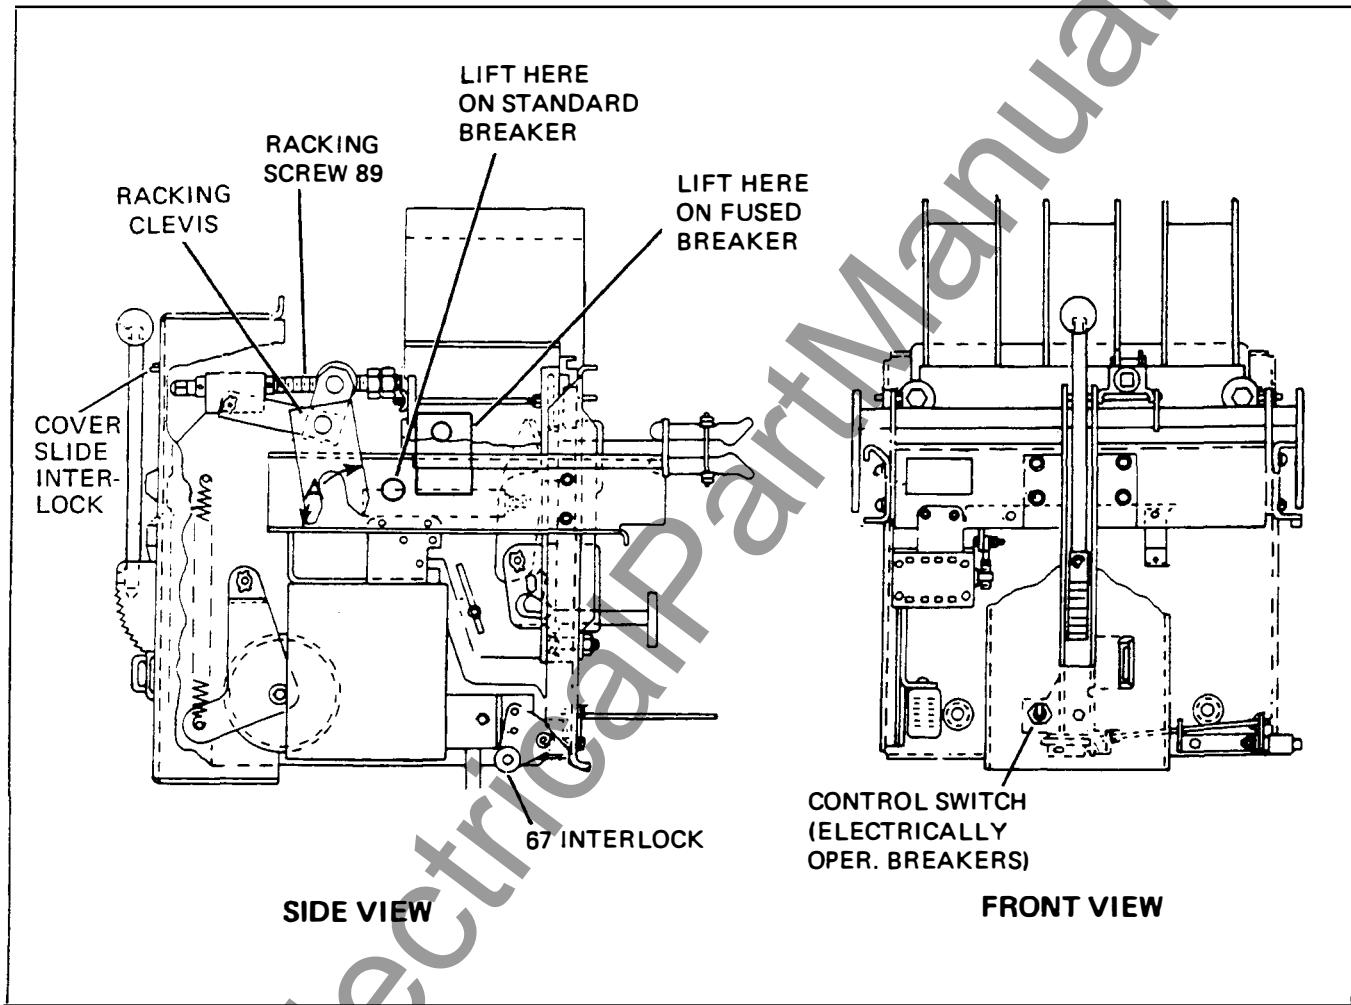

Figure 3A. Typical Racking Mechanism and Drawout Interlock
2. With the racking crank, rotate the racking screw (89) until the racking shaft is in the disconnected position. The clevis can now engage the racking pins in the cubicle. The circuit breaker should now be pushed along the rail into the DISCONNECTED position. Double check that the racking clevis does engage the pins in the cubicle.
3. Counterclockwise rotation of the racking screw will rack the breaker into the TEST position. At the TEST position, the cover slide interlock can be closed, allowing the trip bar to reset and the circuit breaker can be operated. Between the TEST position and the CONNECTED position, interlock IT67 Figure 3A will engage the cubicle interlock cam IT509 Figure 3A and the circuit breaker will be held TRIP FREE and cannot be closed.